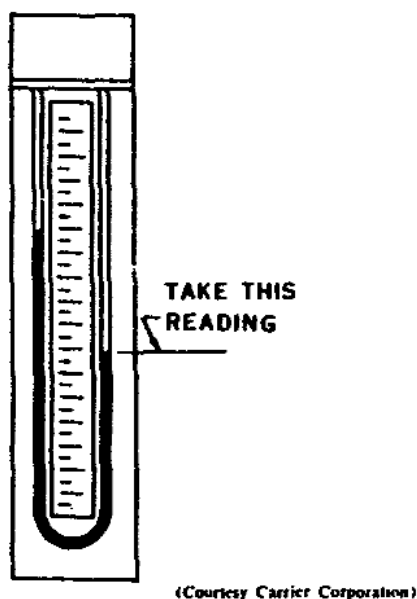

Figure 32. Absorbermanometer.
2. **Checking Vacuum.** Before starting the machine, you should check it to see if air has leaked into the unit while it was shut down. Open the valve in the line from the absorber to the manometer and determine the pressure in the machine. Figure 32 illustrates a manometer reading. Take the temperature of the machine room and locate the corresponding pressure on the chart in figure 33. If the pressure reading in the machine is more than 0.1 inch of mercury higher than the pressure located on the curve, then there is air in the machine. This should be noted on the daily log sheet. If the condition recurs on the next two or three startups, the machine should be shut down as soon as possible and tested for leaks. Air leakage will cause corrosion inside the machine, and over a period of time will result in serious trouble and shorten the life of the equipment.